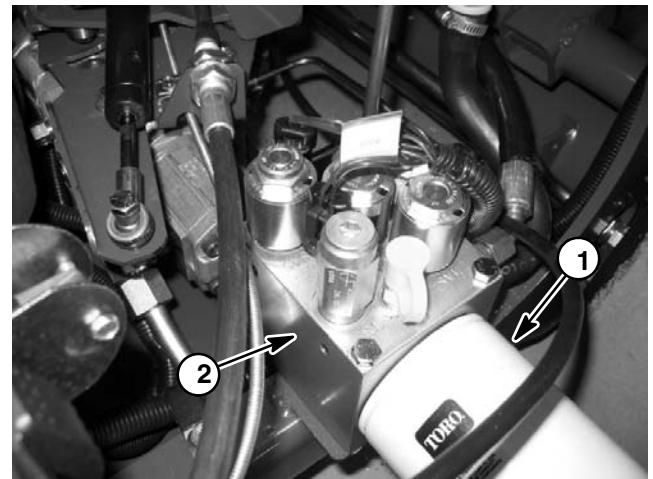

Figure 26
3. Clean area around filter mounting area (Fig. 26). Remove filter from hydraulic manifold and drain reservoir into a suitable container. Drain hydraulic system. Drain all hoses, tubes and components while the system is warm. Discard filter.